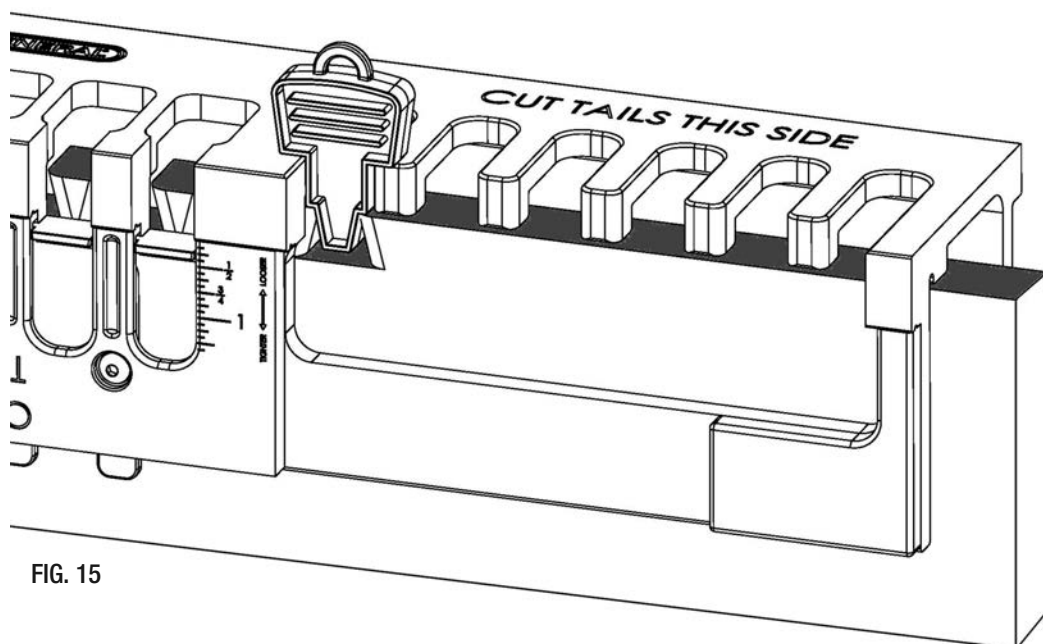

FIG. 15
3. Insert the aligning tool into the slot to properly align the wood with the jig. (FIG. 15)